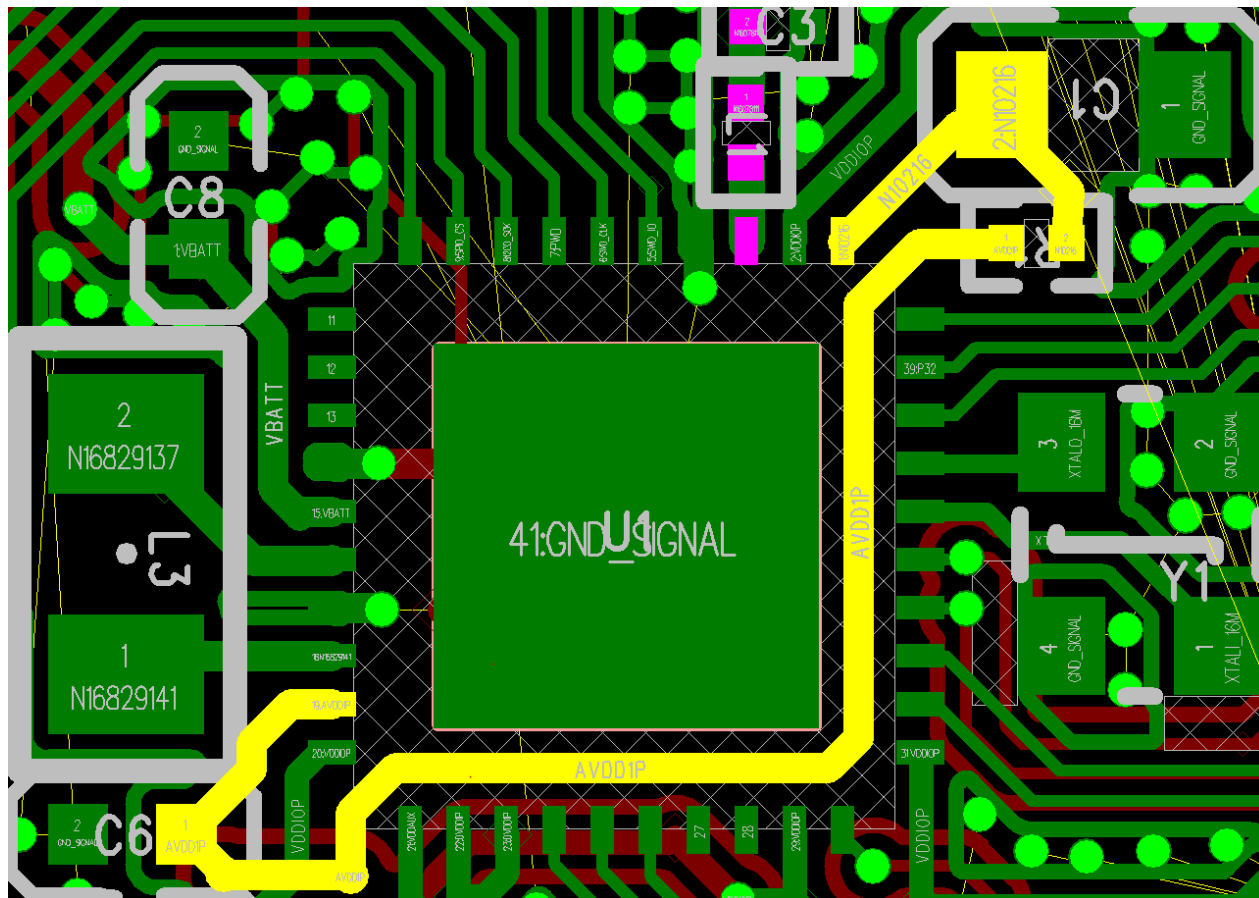

Figure 12 - AVDD1P trace Layout Recommendation for 2-layer ATMx20x PCB with Single-sided SMD Components
- Alternatively, in constrained designs such as a 2-layer PCB, AVDD1P trace can also be routed, for the most part, in the top layer sandwiched between the GND paddle and SMD pads, as shown in Figure 12 (see highlighted section in yellow). It is recommended to have a 7-8 mils clearance on either side of the trace.